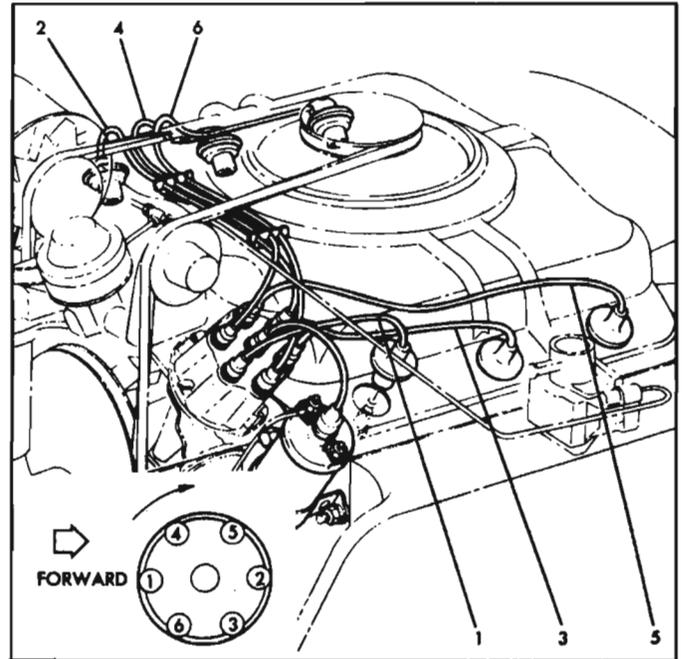

Fig. 8-61—Distributor, Spark Plug Wire and Cylinder Numbering
7. Install cap, check all high tension wire connections and connect spark plug wires if they have been removed (see fig. 8-61). It is important that the wires be installed in their proper location in the supports.